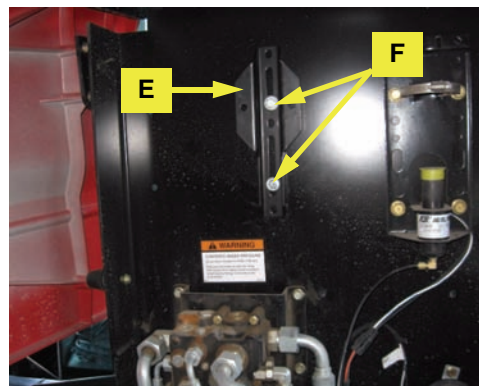

Figure 2b: Steering block mounting bracket
- b. Using the provided hardware **F**, install the mounting bracket **E** (Figure 2b).
NOTE: If there are no holes in the firewall, use bracket **E** as a template and drill two 3/8" mounting holes in the location shown in Figure 2b.